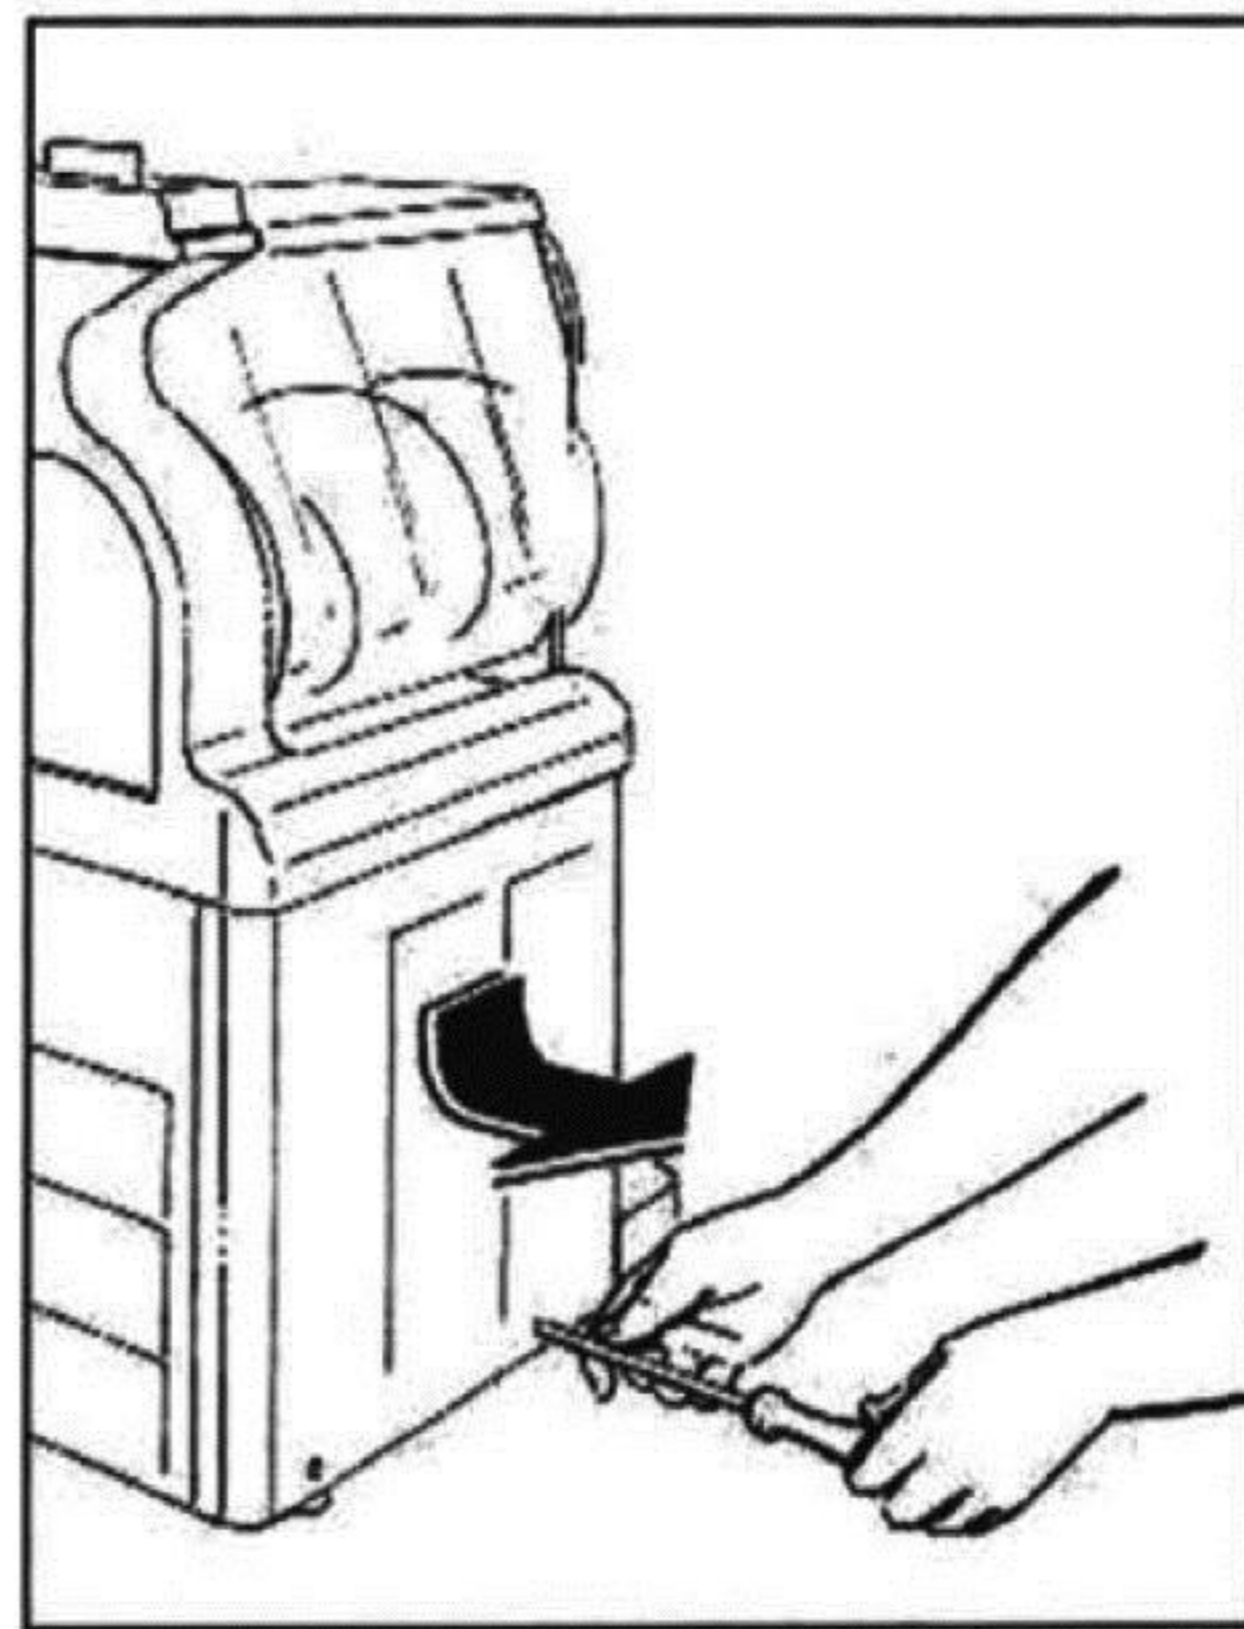

fig.42
- ICE12L machine: remove the left side panel by unscrewing the two bolts fastening it (fig.42);